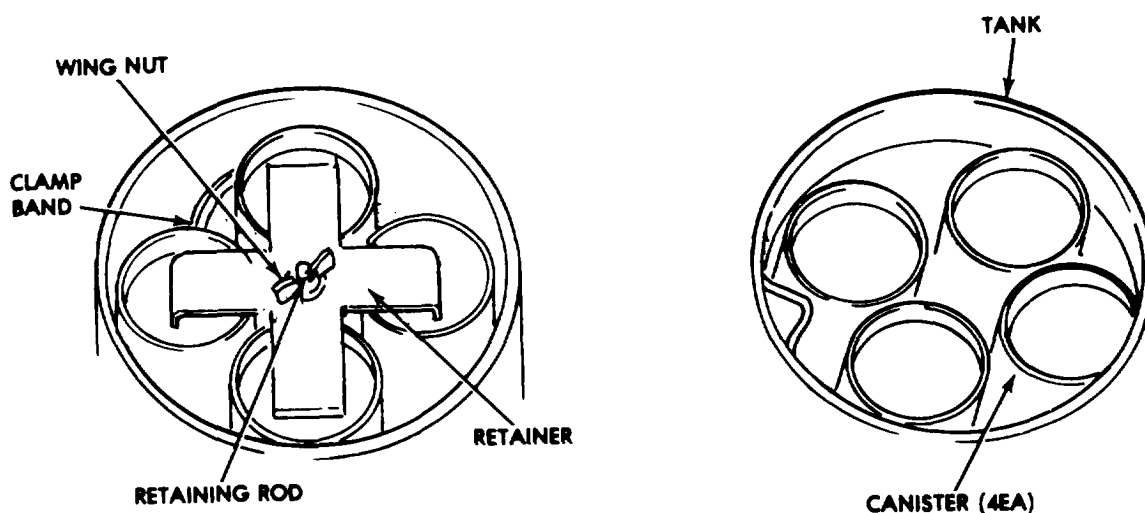
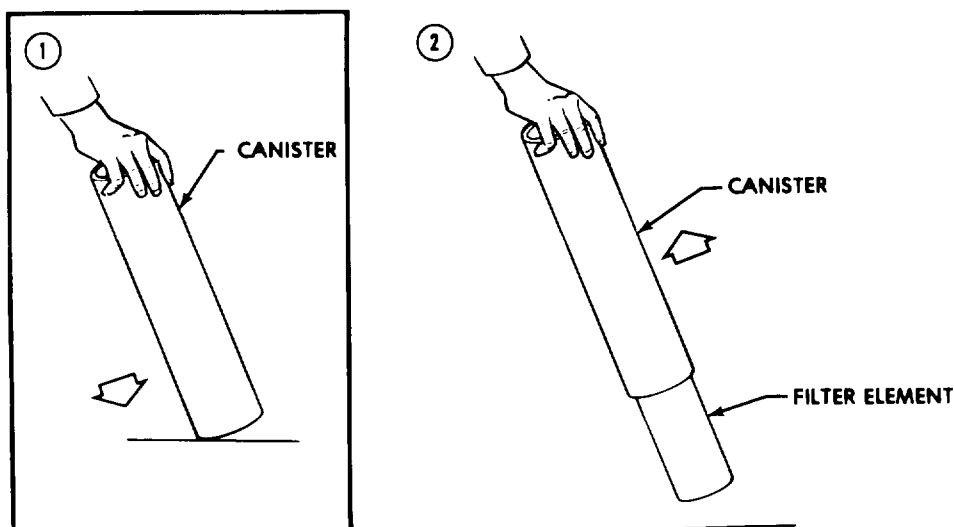

Figure 4-9. Filter Elements.
Figure 4-10. Filter Element Removal
- (7) Remove wingnut and lockwasher (figure 4-9).
- (8) Remove canister retainer and clamp band.
- (9) Remove four canisters by turning and pulling upward.
- (10) Remove filter elements from canister by holding upside down and tapping firmly at an angle until element pops out (figure 4-10).